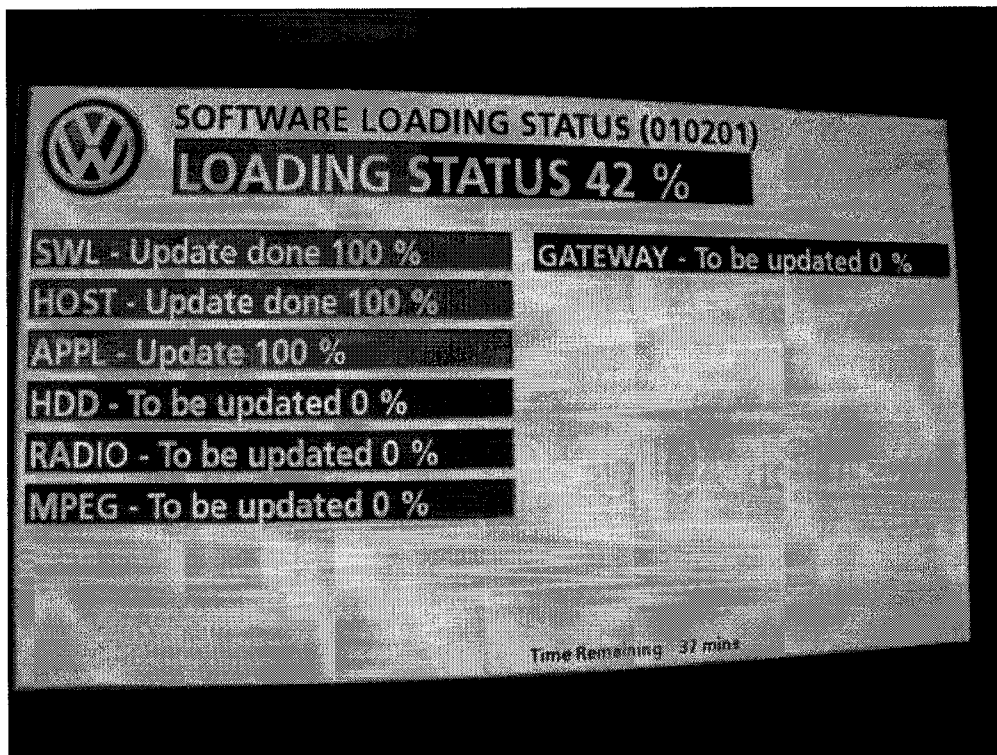

Figure 29
5. The software loading status screen will be displayed for the duration of the down load, approximately 50 minutes. During this time do not operate the infotainment unit (see Figure 29)